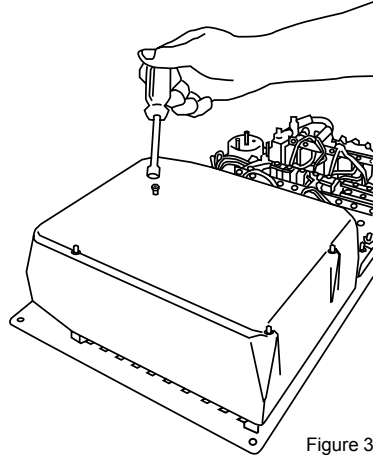

Figure 3
4. Place isolation cover over the AC riser buses aligning the standoffs and fasten down with supplied #8 nylock nuts (see Figure 3).